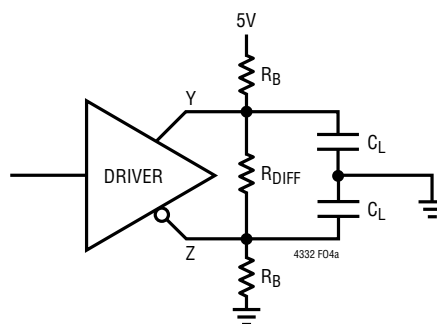

Figure 4. Driver Loading for  $I_{CC}$  Measurements
**Note 7:** Link network with  $R_B = 250\Omega$ ,  $R_{\text{DIFF}} = 100\Omega$ , and  $C_L = 150\text{pF}$  from Figure 4 unless otherwise noted.
- IEC 61000-4-2 Edition 2.0 2008-12 ESD Level 3: ±6kV contact (A, B, Y, or Z to GND, direct discharge to bus pins with transceiver and protection circuit mounted on a test card with a low impedance ground discharge path from board GND to ESD gun return lead, per Figure 4 of the standard)